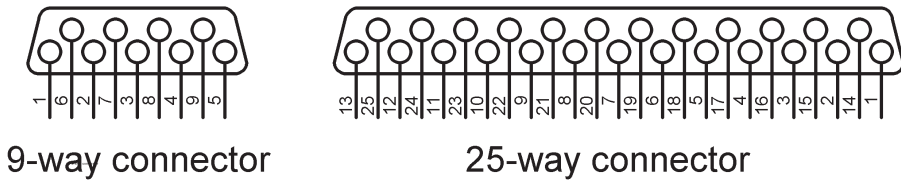

Figure 6.2 RS232 connectors
In serial communication a minimum of three lines are used for communication: transmit (TX), receive (RX), and ground (GND). Some high-speed serial communication systems use additional control signals for synchronisation, such as CTS, DTR, and so on. Some systems use software synchronisation techniques where a special character (XOFF) is used to tell the sender to stop sending. Another character (XON) is used to tell the sender to restart transmission. RS232 devices are connected using two types of connectors: 9-way and 25-way. Table 6.1 shows the TX, RX, and GND pins of each type of connector. The connectors used in RS232 serial communication are shown in Figure 6.2.